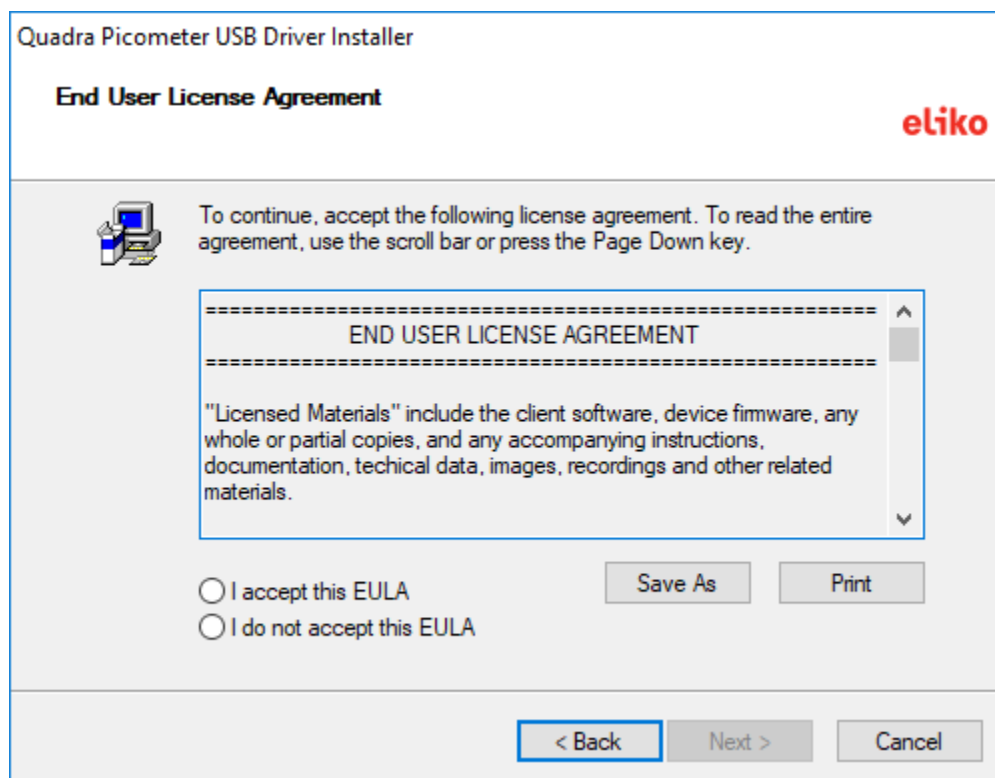

Figure 4 Driver EULA dialog
3. On the EULA window (**Figure 4**) select *I accept EULA* if you accept displayed license agreement. Click *Next* to continue with driver installation.